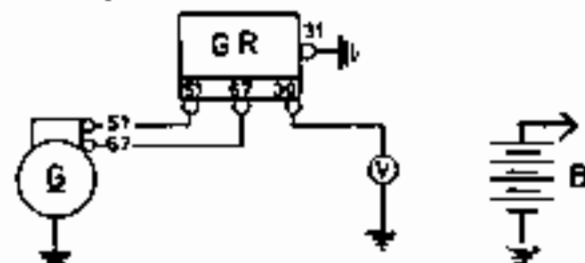

Fig. 8.12. Wiring diagram for setting the voltage regulator
- 1 The circuit needed is shown in Fig. 8.12.